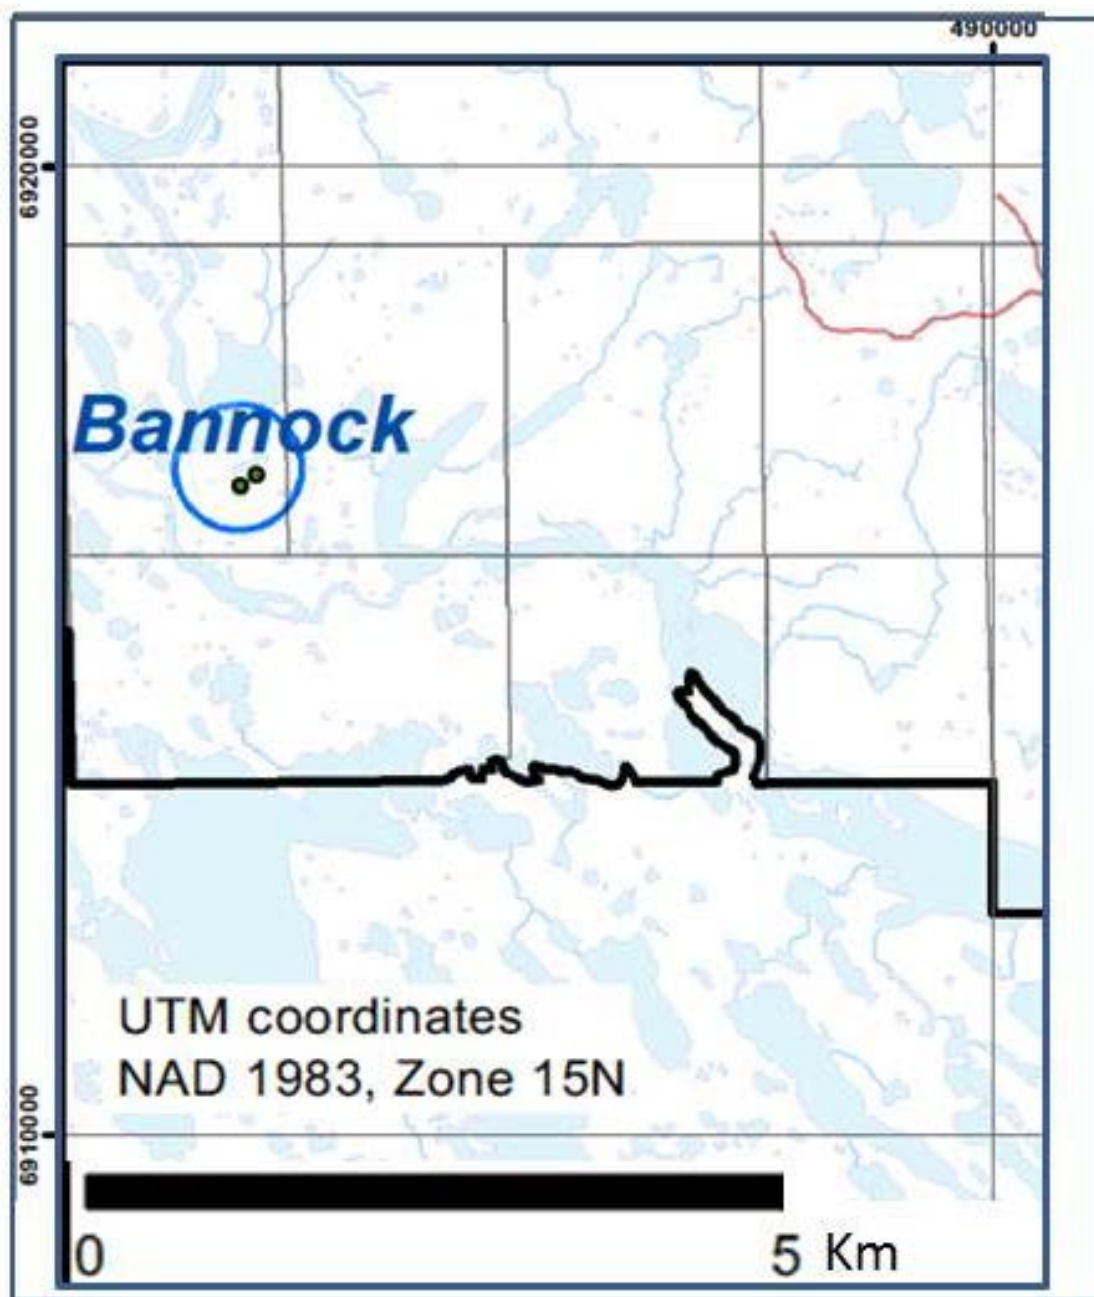

Figure 14. Map illustrating the Bannock Prospect drill sites.
- Figure 14. Map illustrating the Bannock Prospect drill sites.
| • Bannock              | Drill holes illustrated on Figure 14                    |